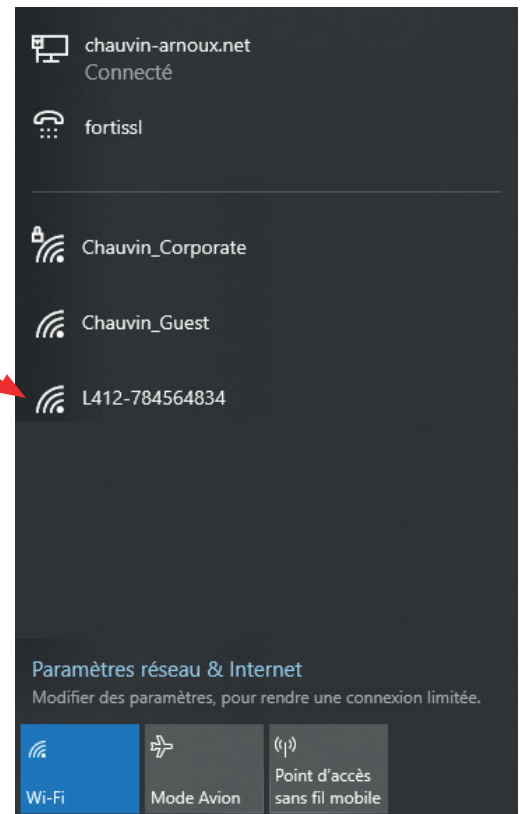

Figure 11
- Connect the PC to the router as explained Figure 11.